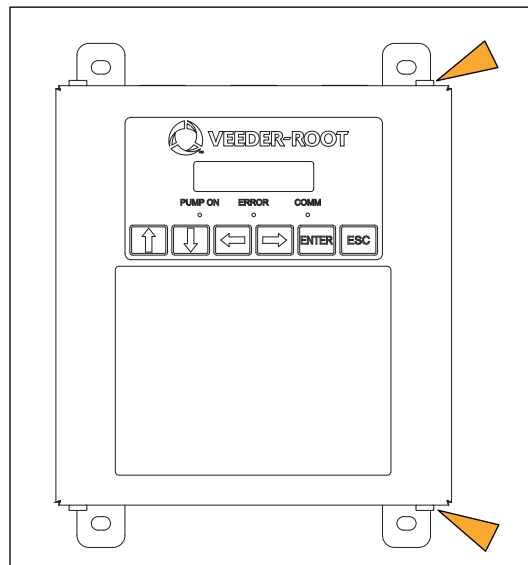

Figure 1. IQ2 Enclosure Door Shoulder Screw Locations
2. Remove and save the two shoulder screws securing the door in the closed position using a Torx T15 driver (see Figure 1).